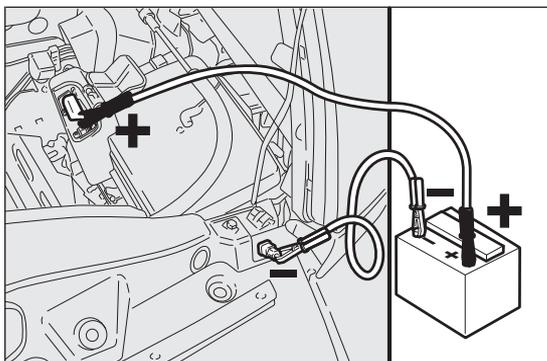

fig. 167
- use a second cable to connect the negative terminal (-) of the auxiliary battery to the earth point as shown in fig. 167;